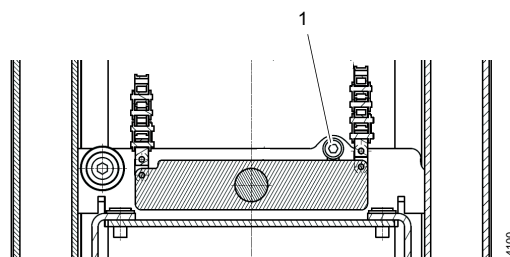

Fig. 4-45 Transport lock
13. Remove transport locks, see **Fig. 4-45**.